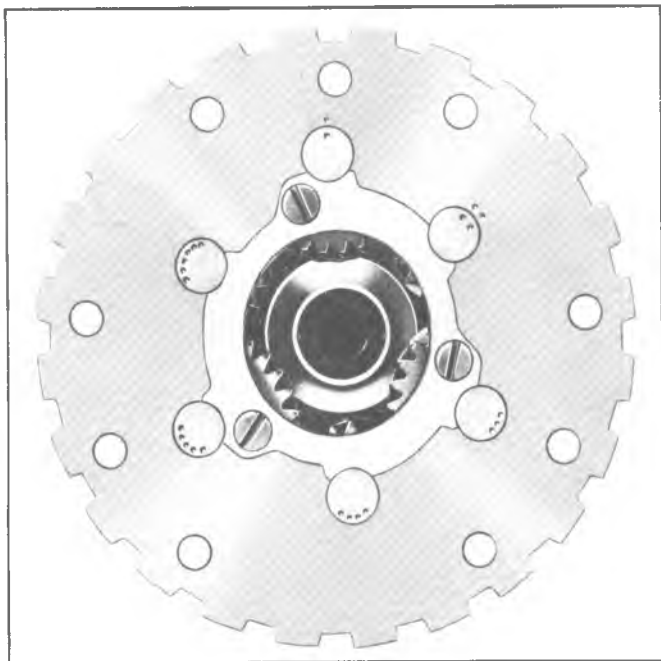

Fig. 25PG--Suggested Pinion Shaft Markings
- Using prick punches or other similar means, mark each pinion shaft and also the planet carrier assembly (fig. 25PG), so that reassembling, each pinion shaft will be reinstalled in the same location from which it was removed.